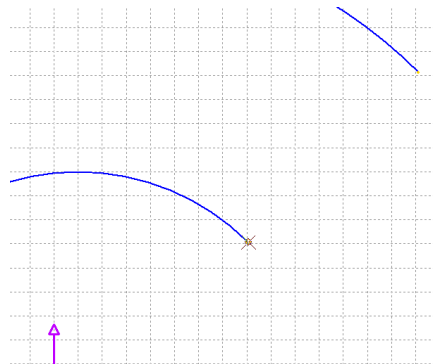

Figure 2.1-12: Snap to arc start to create a new line
2. Use the snap method (hold the **CTRL** key, move the cursor until it changes to a small crossed-circle, and then **LEFT-CLICK**) to create the start vertex of the new line (Figure 2.1-12)